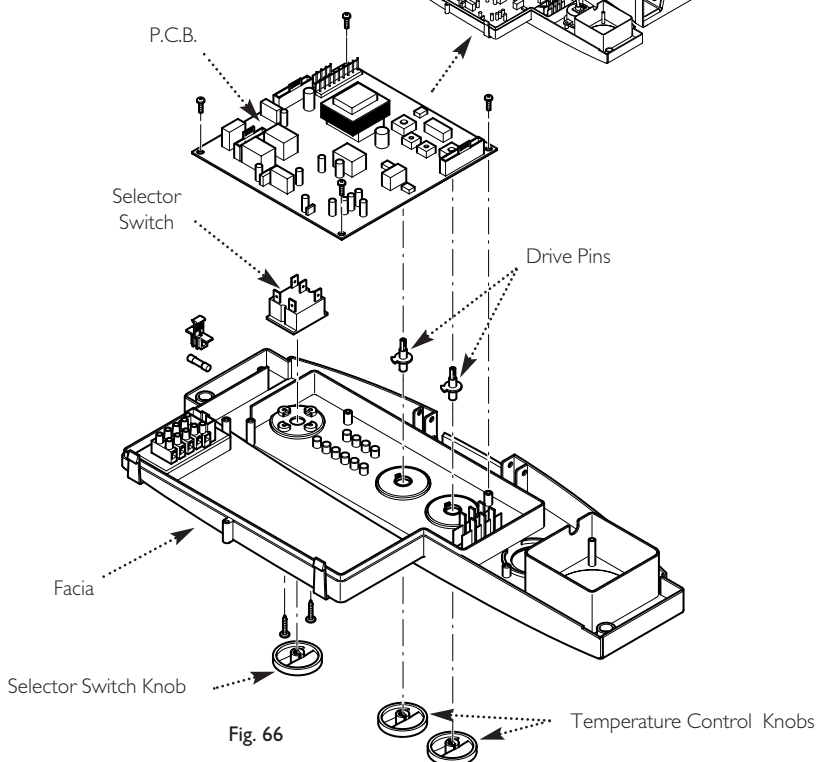

Fig. 66
12.19 P.C.B. (Fig. 66)
12.20 Selector Switch (Fig. 66)